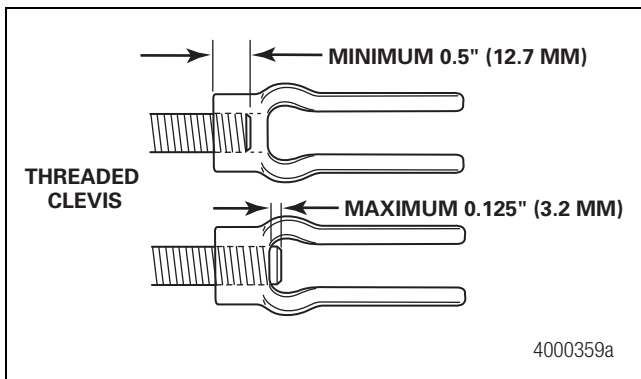

Figure 11
5. Verify that the thread engagement between the clevis and push rod is 0.5-0.625-inch (12.7-15.9 mm). Figure 11.